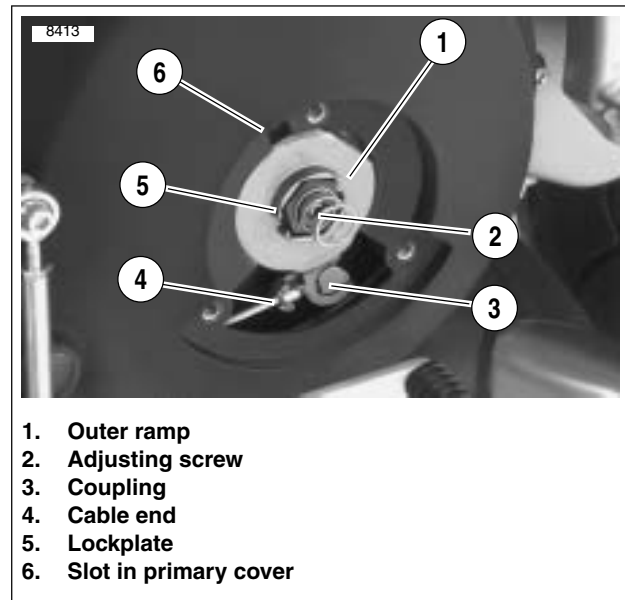

Figure 6-10. Nut and Outer Ramp
2. See Figure 6-10. Install ramp assembly.